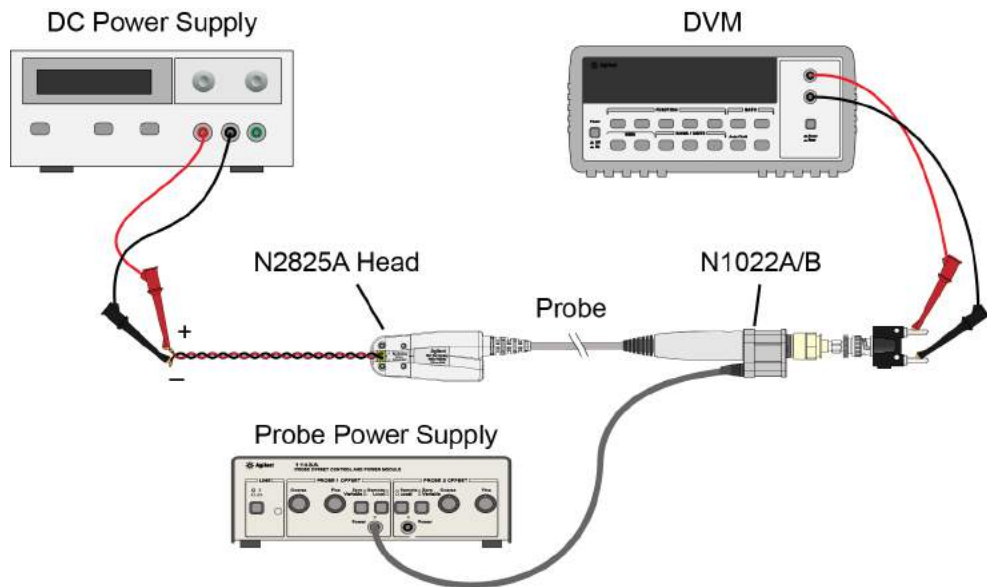

Figure 52 Test Setup for Measuring V_{out}
- 4 Move the multimeter's leads to the banana plug on the output of the N1022A/B as shown in Figure 52.
- 10 Connect the multimeter's leads to the banana plug on the output of the N1022A/B as shown in Figure 52 on page 104.